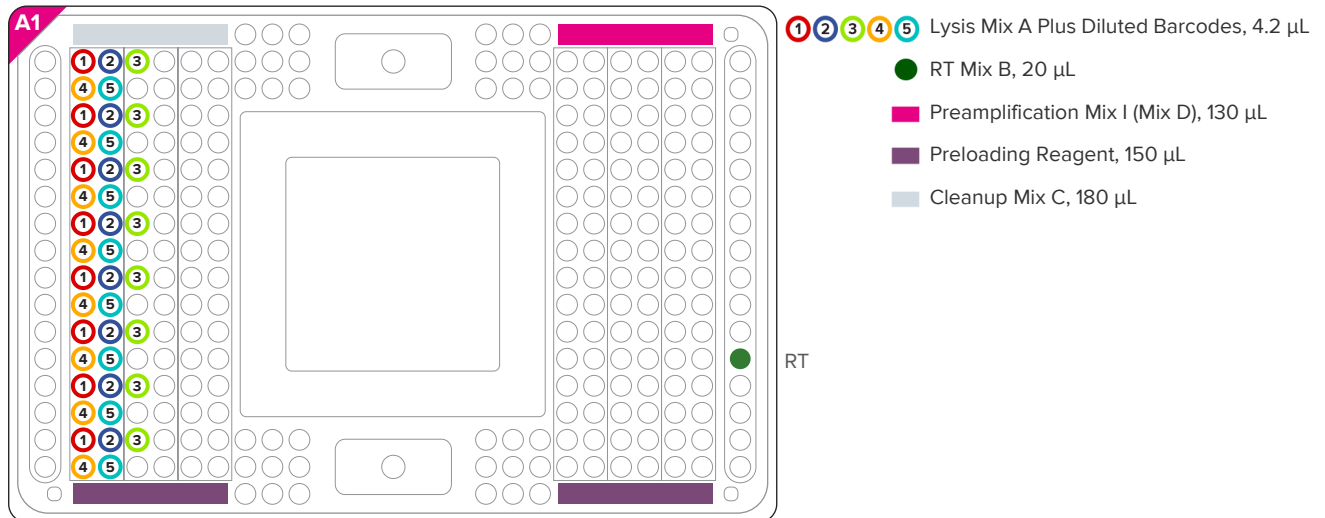

Figure 6. HT IFC lysis, RT and cleanup pipetting map
- Reverse Transcription (RT) Reaction Mix—Mix B (see page 25)
- 3 Very carefully transfer, column by column, 4.2 µL of the Lysis Mix A containing diluted barcodes (see page 24) into each of the corresponding wells marked 1–5 in Figure 6 (① ② ③ ④ ⑤). Use fresh pipette tips for each column.